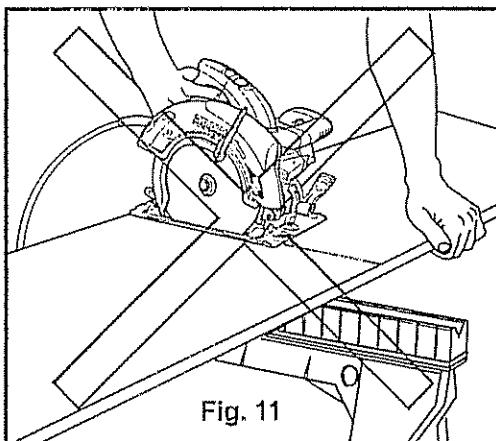

Fig. 11
2. **NEVER** use the saw with your hands positioned as shown in Fig. 11
7. **NEVER** place the saw on the part of the workpiece that will fall off when the cut is made (see Fig. 11).